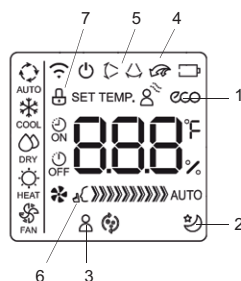

fig. 6 -
1. **"ECO / GEAR"** operating mode (part.1 "fig. 6 -") (the display of the indoor unit shows the word "ON" for 3 seconds when the function is activated, "OF" for 3 seconds when the function is deactivated)
2. **SLEEP** operating mode (part.2 "fig. 6 -")
3. **"FOLLOW ME"** operating mode (part.3 "fig. 6 -")
5. TURBO function (detail 4 "fig. 6 -" - the display of the indoor unit shows the text "ON" for 3 seconds when the function is activated, "OF" for 3 seconds when the function is deactivated)
6. SWING function (detail 5 "fig. 6 -", the display of the indoor unit shows the text "ON" for 3 seconds when the function is activated, "OF" for 3 seconds when the function is deactivated)
7. SILENCE function (detail 6 "fig. 6 -", the indoor unit display shows the text "ON" for 3 seconds when the function is activated, "OF" for 3 seconds when the function is deactivated)
9. Key lock (detail 7 "fig. 6 -")